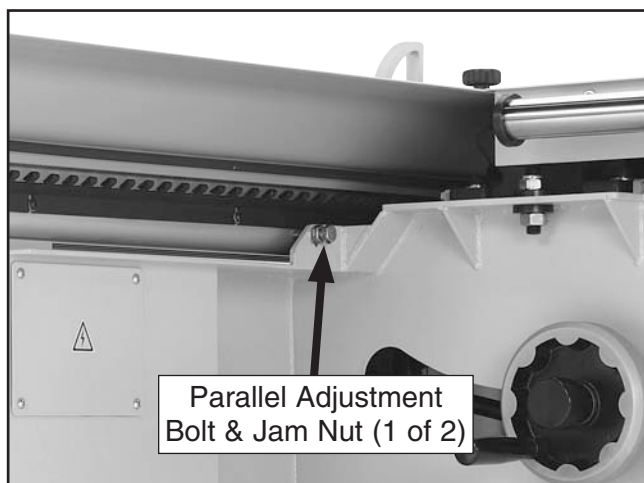

Figure 124. Sliding table parallel adjustment bolt (1 of 2).
8. Loosen the jam nuts on the sliding table parallel adjustment bolts (see **Figure 124**) that are on both sides of the frame behind the sliding table, then adjust the bolts in or out in small increments to change the parallel relationship of the sliding table to the saw blade.